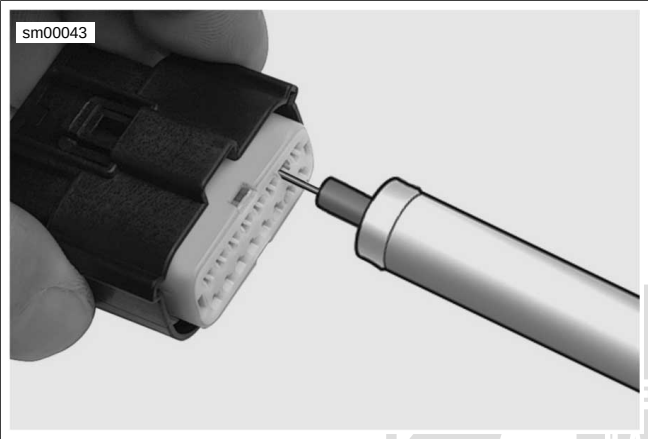

Figure A-46. Molex MX 150 Sealed Connector: Terminal Remover (HD-48114)
2. See Figure A-46. Insert TERMINAL REMOVER (Part No. HD-48114) into the pin hole next to the terminal until the tool bottoms.